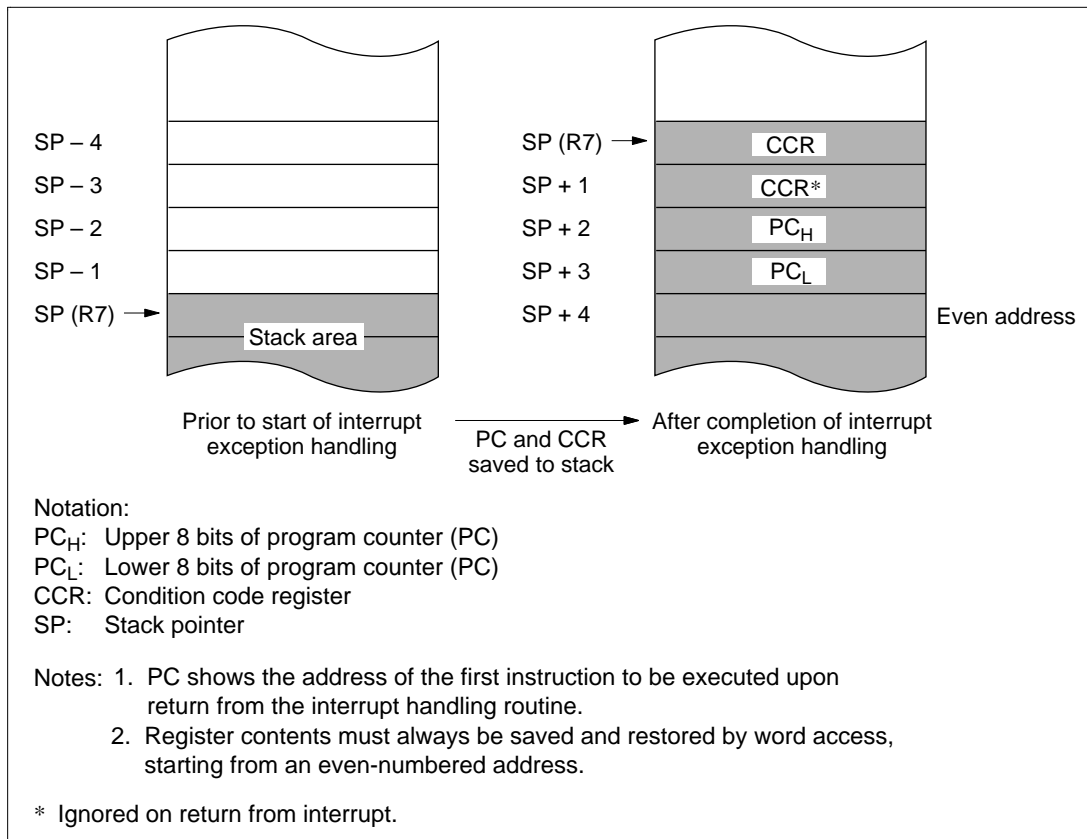

Figure 3.5 Stack State after Completion of Interrupt Exception Handling
- If the interrupt is accepted, after processing of the current instruction is completed, both PC and CCR are pushed onto the stack. The state of the stack at this time is shown in figure 3.5. The PC value pushed onto the stack is the address of the first instruction to be executed upon return from interrupt handling.